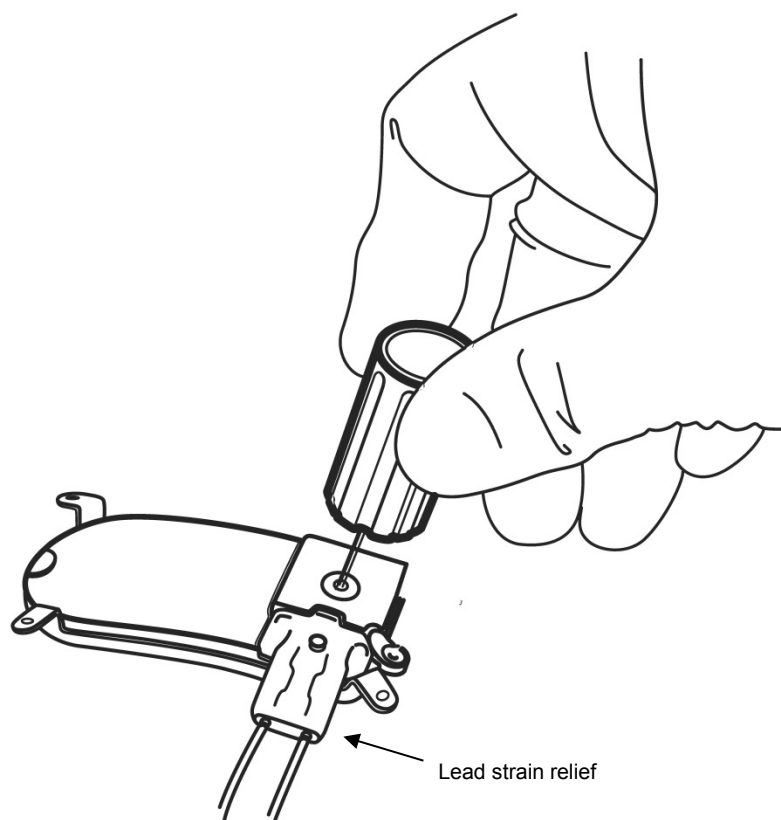

Figure 16: Secure the connector cover and lead(s) to the RNS® Neurostimulator using the torque driver.
10. Place the lead strain relief over the proximal ends of the leads extending from the connector cover (Figure 16) and attach it to the post.